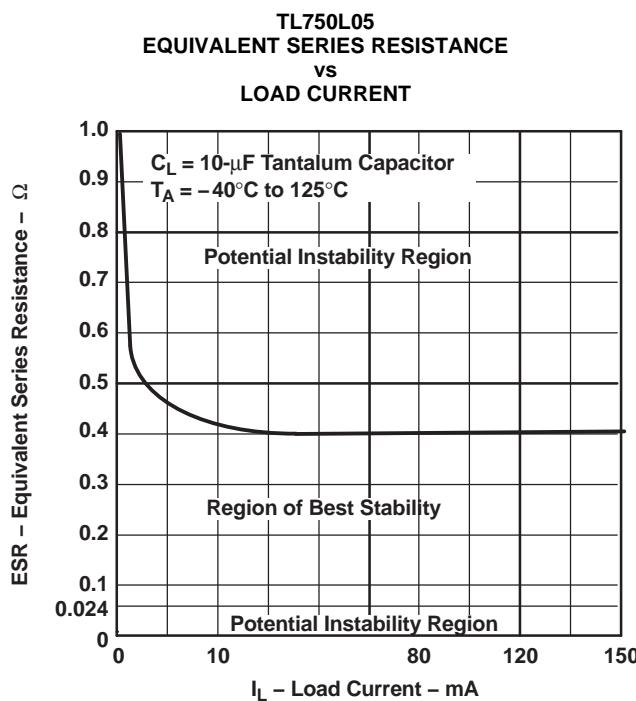

Figure 1.
- The transient input voltage rating applies to the waveform shown in Figure 1.
The TL750L, TL751L series are low-dropout regulators. This means that capacitance loading is important to the performance of the regulator because it is a vital part of the control loop. The capacitor value and its equivalent series resistance (ESR) both affect the control loop and must be defined for the load range and temperature range. Figure 1 shows the recommended range of ESR for a given load with a $10\text{-}\mu\text{F}$ capacitor on the output.